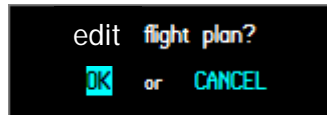

Figure 7.19
5.3 click on the ENTER key to display a window prompting to perform the function or cancel (Figure 7.19).
The edit options available on the fs2x G1000 PFD flight plan window are displayed in bright cyan in Figure 7.19. The darkened options are not currently available; however they are included for future consideration. The available options are discussed below in order from top to bottom.